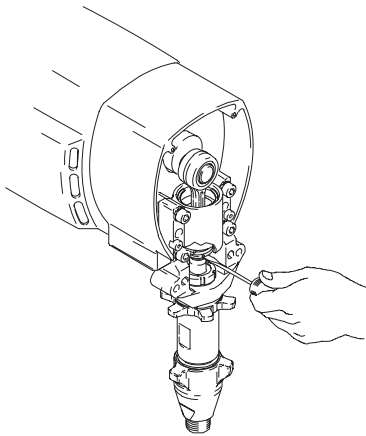

Fig. 21 7674A
3. Fig. 21. Use screwdriver to push retaining spring up.